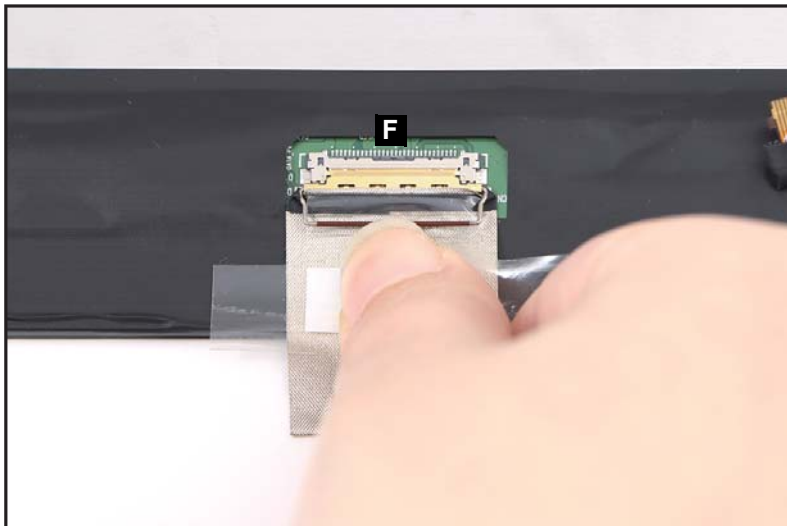

Figure 1-57. LCD Panel Removal
5. Disconnect the LVDS cable from the LCD panel connector (F) (Figure 1-57).